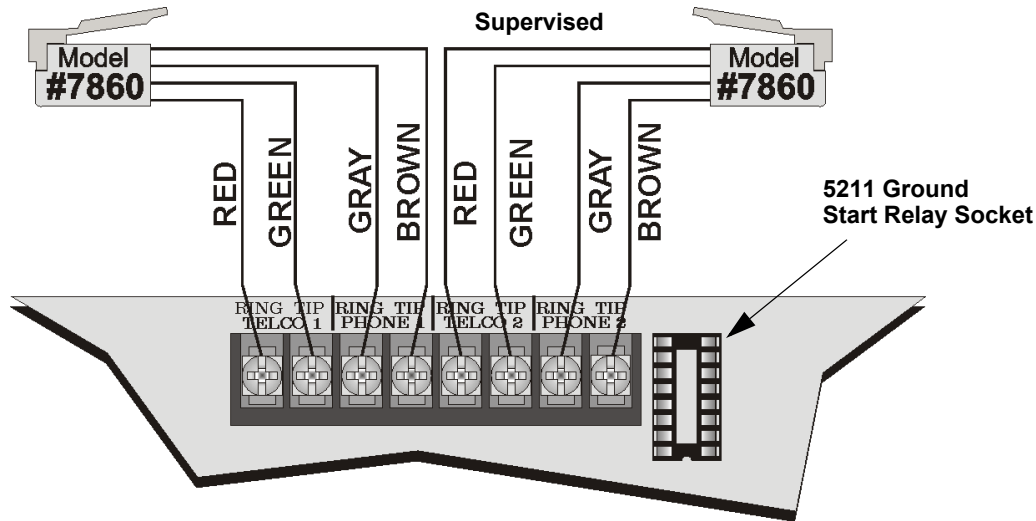

Figure 4-26 Connection of Telephone Lines
Connect the telephone lines as shown in Figure 4-26. The Model 7860 phone cord is available from Silent Knight for this purpose.
1. Install the 5211 on the ground relay socket as shown in Figure 4-26.